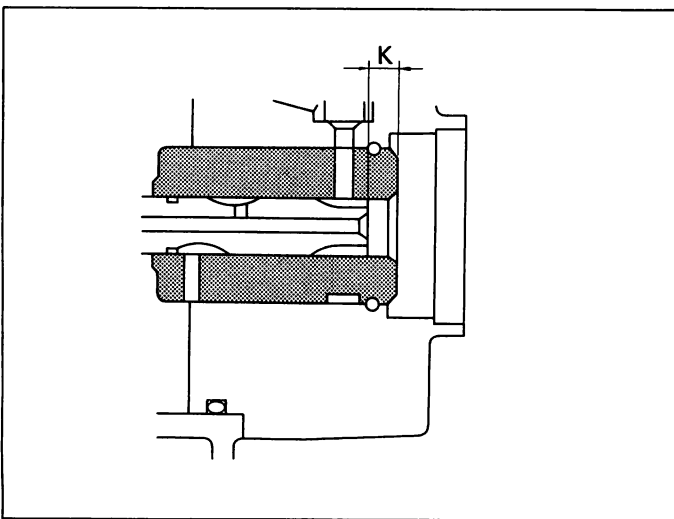

Fig. 63 "K" dimension
1. The "K" dimension is the distance from the end face of the distributor barrel to the end face of the top of the plunger when the plunger is in the B.D.C. position. (Fig. 63)
2. Install the plunger, fitted with the shim (43), washer (44), spring seat (45) and shim (52), on the cam disk (29).
3. Fit the plunger springs (46) onto the spring seats (45).